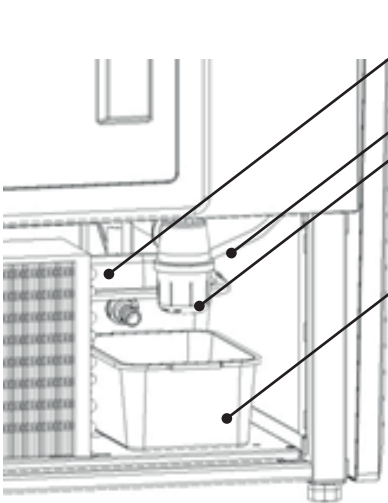

Fig.7 Overflow (version with evaporator)
- Mount night screens Fig.7/1; 2 (p.20)